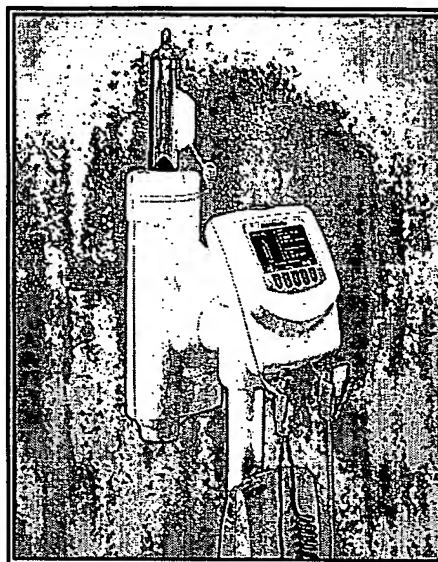

Figure 2.5 Injector Head in Upright Position
1. Tilt the Injector head into the upright position as shown in Figure 2.5.